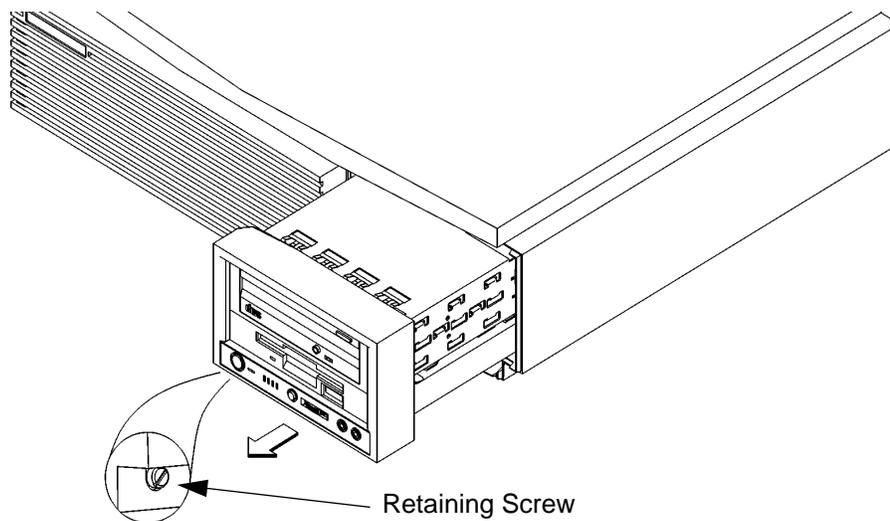

Figure 27 **Removing the Storage Tray**
- 1 Remove the storage tray retaining screw, as shown in Figure 27.
- 3 Place your fingertips in the groove on the bottom of the storage tray bezel. See Figure 27.